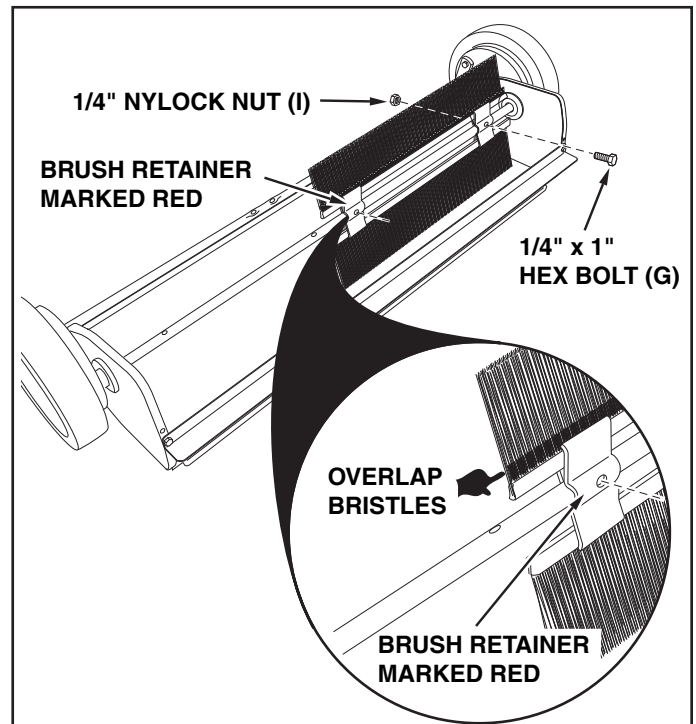

FIGURE 2
IMPORTANT: The overlap bristles at the bottom of each brush help support the back side of the brush for better sweeper performance. Be sure the sweeper is turned as shown in figures 2 and 3 to correctly assemble the brushes.
STEP 2: (SEE FIGURE 2)
- Attach the brush assembly with the red brush retainer to the right end of the brush shaft using two 1/4" x 1" hex bolts (G) and 1/4" nylock nuts (I). The brush retainer marked with red ink must be placed to the **middle** of the sweeper.